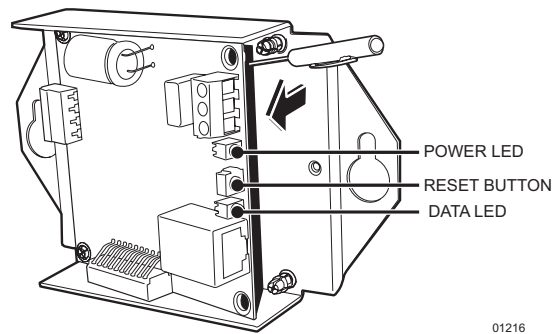

Figure 4. Removing the MRD Board
NOTE: *Baud/Address Settings – If switch settings are changed while the power to the MRD unit is ON, push and hold the reset button for five seconds and then release, to recycle power and accept the new baud/address setting. Refer to Figure 4 for the location of the reset button.*
- b. Using a small screwdriver, carefully pry each corner of the board from the PEM studs. Refer to Figure 4.
Camera does not respond or responds improperly to commands.	<ol style="list-style-type: none"> 1. Check the baud rate of the MRD and the controller/switcher. Both should have the same baud rate setting. 2. The camera address is not set correctly. Check the MRD camera address setting. 3. If the baud or address switch settings are changed, press the power reset button (see Figure 4).
DATA LED is not lit.	<ol style="list-style-type: none"> 1. Check connection to the camera. 2. Push and hold the power reset button for 5 seconds and then release, to recycle power to the camera. Refer to Figure 4.